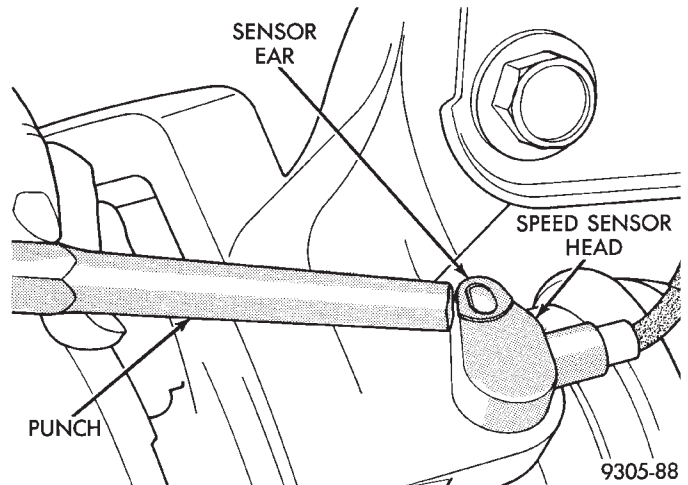

Fig. 8 Speed Sensor Head Removal (Typical)
(6) Remove screw attaching speed sensor head to steering knuckle.
(7) Carefully, remove sensor head from steering knuckle. If the sensor has seized, due to corrosion, **DO NOT USE PLIERS ON SENSOR HEAD**. Use a hammer and punch (Fig. 8) to tap edge of sensor ear, rocking sensor side to side until free.